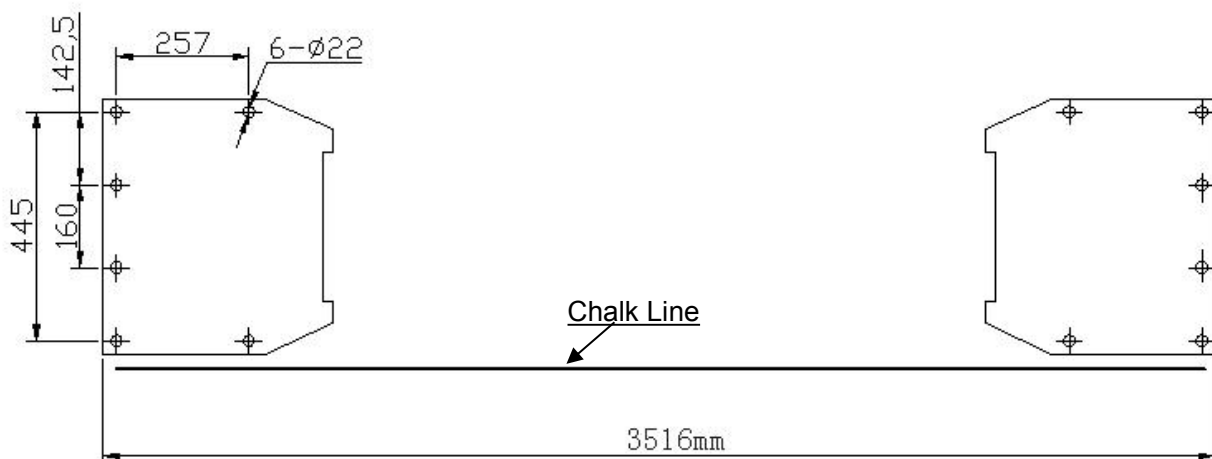

Fig. 5
B. Use a carpenter's chalk line to establish installation layout of baseplate (**See Fig. 5**).